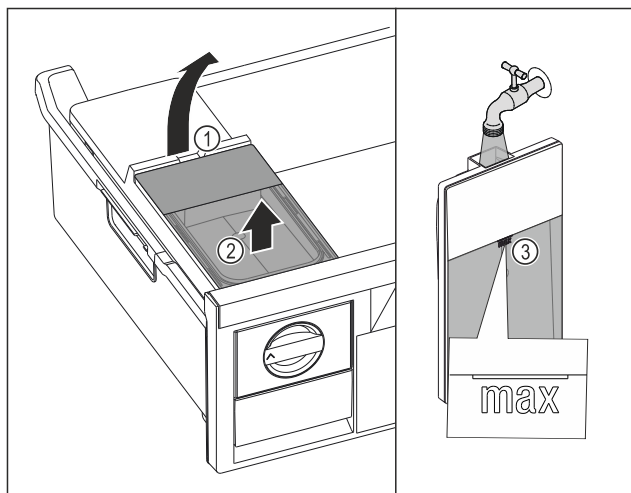

Fig. 112
- Lift the water tank at the recess Fig. 112 (1).
- Remove the water tank by lifting it upward. Fig. 112 (2)
- Fill the water tank with drinking water up to the mark Fig. 112 (3).